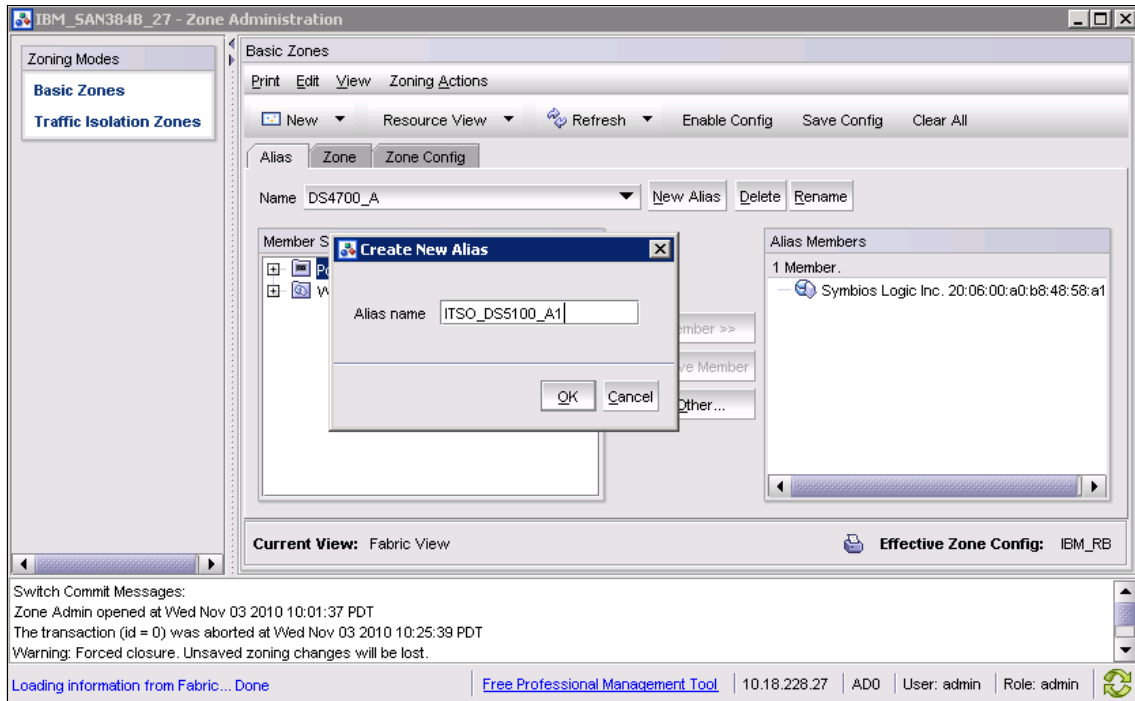

Figure 12-33 New Alias
- Click the **Alias** tab, and click **New Alias**. The Create New Alias dialog box displays, as shown in Figure 12-33.